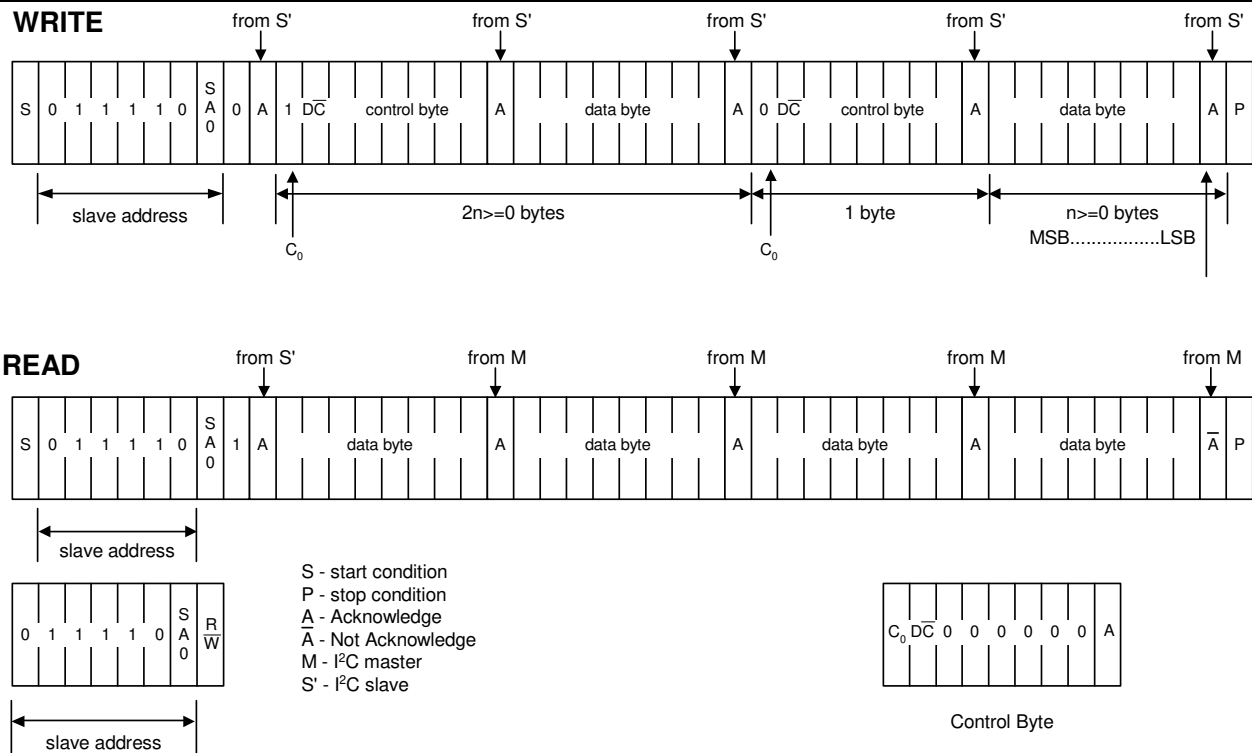

Figure 7 I²C Protocol
The SH1106 supports both read and write access. The $R/\bar{W}$ bit is part of the slave address. Before any data is transmitted on the I²C-bus, the device that should respond is addressed first. Two 7-bit slave addresses (0111100 and 0111101) are reserved for the SH1106. The least significant bit of the slave address is set by connecting the input SA0 to either logic 0 (VSS) or 1 (VDD1). The I²C-bus protocol is illustrated in Fig.7. The sequence is initiated with a START condition (S) from the I²C-bus master that is followed by the slave address. All slaves with the corresponding address acknowledge in parallel, all the others will ignore the I²C-bus transfer. After acknowledgement, one or more command words follow which define the status of the addressed slaves. A command word consists of a control byte, which defines C_0 and $D/\bar{C}$ (note1), plus a data byte (see Fig.7). The last control byte is tagged with a cleared most significant bit, the continuation bit C_0 . After a control byte with a cleared C_0 -bit, only data bytes will follow. The state of the $D/\bar{C}$ -bit defines whether the data-byte is interpreted as a command or as RAM-data. The control and data bytes are also acknowledged by all addressed slaves on the bus. After the last control byte, depending on the $D/\bar{C}$ bit setting, either a series of display data bytes or command data bytes may follow. If the $D/\bar{C}$ bit was set to '1', these display bytes are stored in the display RAM at the address specified by the data pointer. The data pointer is automatically updated and the data is directed to the intended SH1106 device. If the $D/\bar{C}$ bit of the last control byte was set to '0', these command bytes will be decoded and the setting of the device will be changed according to the received commands. The acknowledgement after each byte is made only by the addressed slave. At the end of the transmission the I²C-bus master issues a stop condition (P). If the $R/\bar{W}$ bit is set to one in the slave-address, the chip will output data immediately after the slave-address according to the $D/\bar{C}$ bit, which was sent during the last write access. If no acknowledge is generated by the master after a byte, the driver stops transferring data to the master.